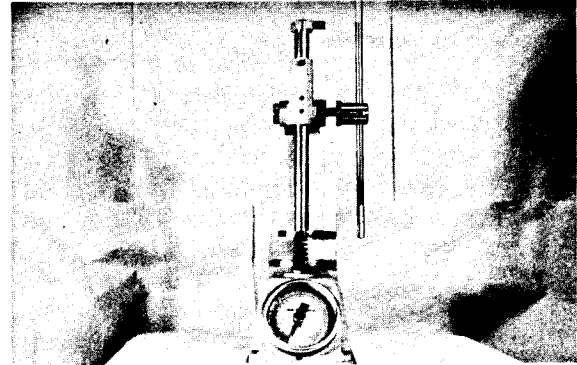

Figure 68
4. Over a period of time, valve springs can lose some of their tension. The spring must be replaced if the tension is less than the service limit. (Fig. 68)